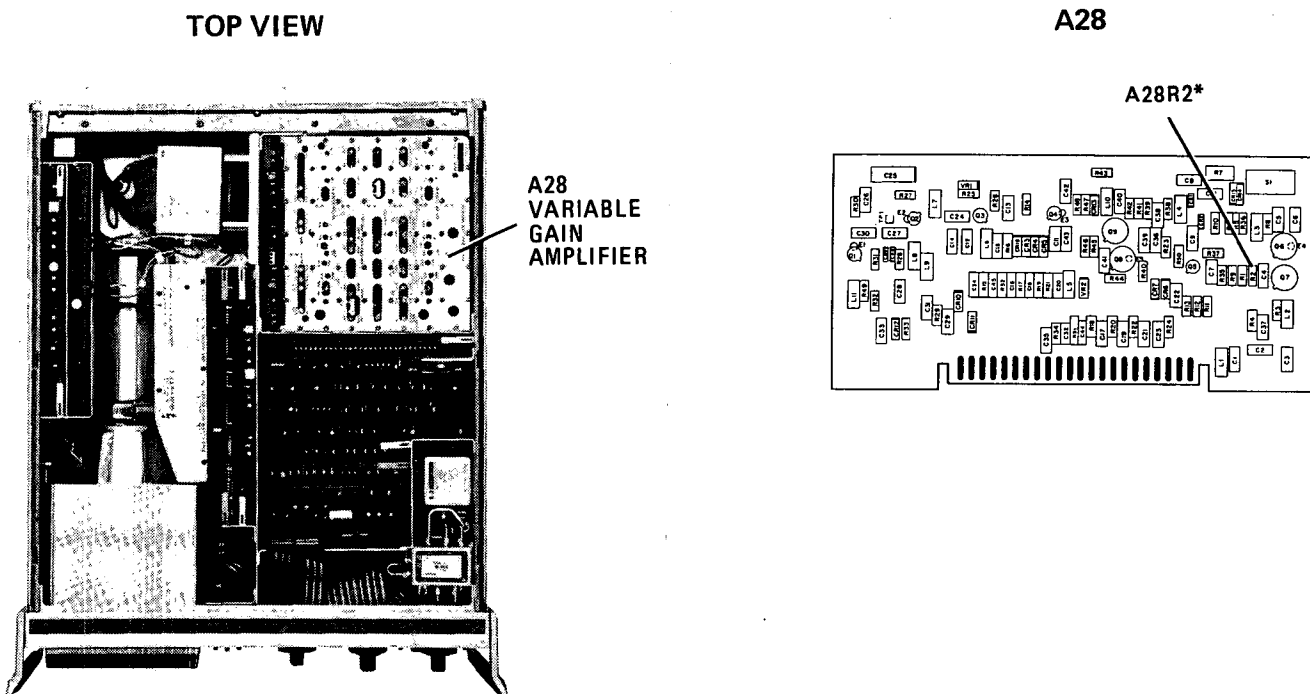

Figure 5-62. Absolute Amplitude Calibration Adjustment Locations
5. Note distance of signal peak (in dB) from third horizontal graticule line from bottom of display. For every dB signal peak is separated from this graticule line, change value of factory-selected resistor A28R2* (Figure 5-62) by 10 percent. (An increase in resistance increases signal level.) When signal is within 1 dB of graticule line, proceed to step 6.